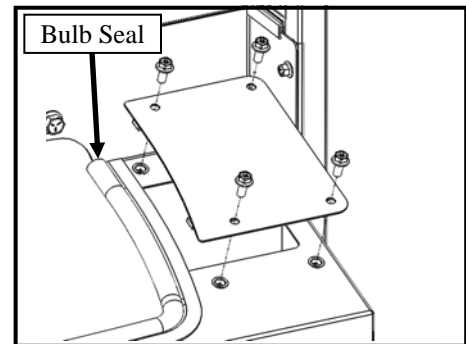

Figure 1.2: Remove Filler Cover Plate
- 1.2 Remove and discard the cover plate on the lower right cab filler by removing (4) 1/4-20 hex bolts as shown in Figure 1.2. Keep the bulb seal installed across the new opening.
- 1.4 Remove the bulb seal (shown in figure 1.2) and install the rear hydraulic hoses inside the new opening.